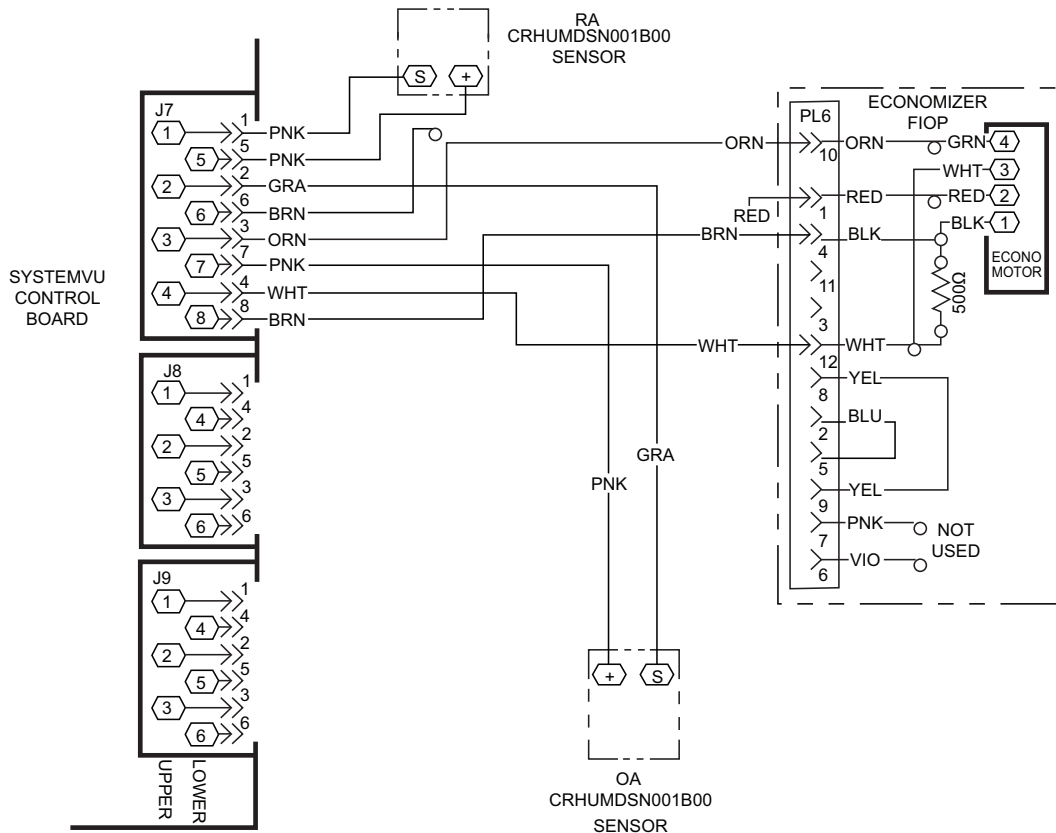

Fig. 3 — SystemVu Wiring Diagram for 48/50LC
3. Units with SystemVu controls have a PINK and GRAY wire routed close to (but not in) the PL6 economizer harness in the economizer section. These (2) wires are to be connected to the sensor. Connect the PINK wire to the + terminal and the GRAY wire to the - terminal. See Fig. 3.
3. Route the (2) PNK wires from the SystemVu control board to the return air (RA) humidity sensor. Wire the return air humidity sensor to the SystemVu control board by connecting (2) PNK wires as shown in Fig. 3.